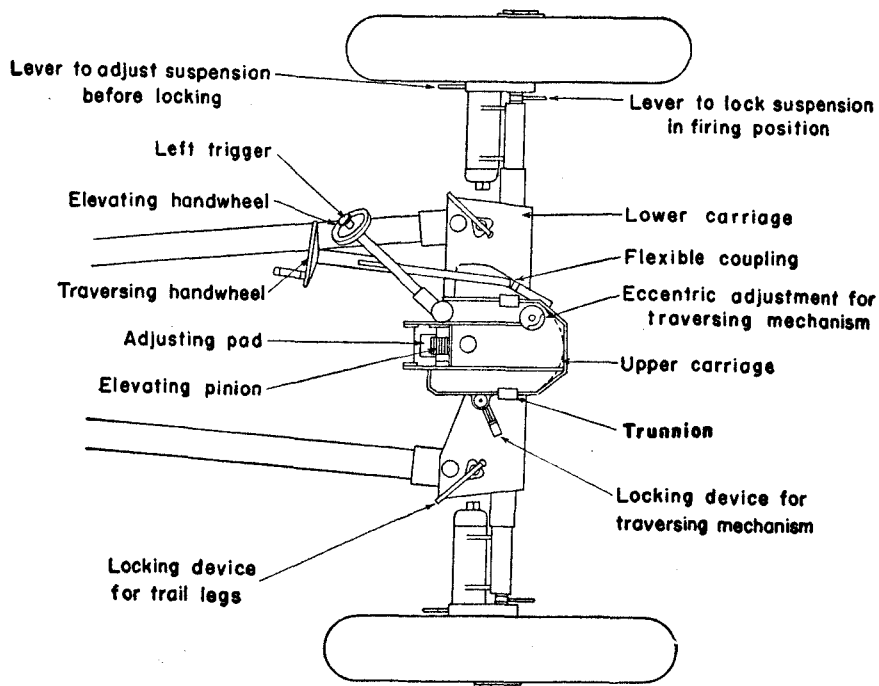

Figure 63.—Carriage of 3.7-cm Pak, showing traversing and elevating mechanisms.
(3) *Traversing mechanism*.—The gunner is on the left side of the weapon and operates the traverse with his right hand by a small handwheel (clockwise to the right, counterclockwise to the left). (See fig. 63.) The traverse is 60 degrees (1,062 mils), and is completed by $30\frac{1}{2}$ turns of the handwheel.
(4) *Elevating mechanism.*—The arc of 21 degrees (372 mils) elevation and 13 degrees (229 mils) depression is completed by $33\frac{1}{2}$ turns of the handwheel, which the gunner operates with his left hand. (See fig. 63.)